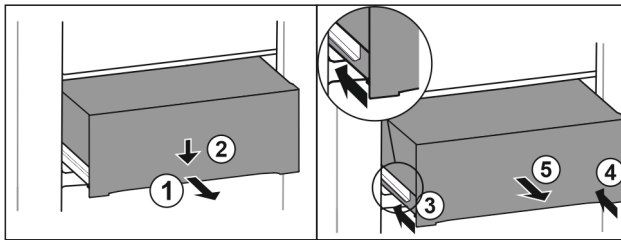

Fig. 149
- ▶ Pull out drawer half-way. Fig. 149 (1)
- ▶ Push the drawer down at the front. Fig. 149 (2)
- ▶ Push the left rail in by about 2 cm. Fig. 149 (3)
- ▶ Push the right rail in by about 2 cm. Fig. 149 (4)
- ▶ Remove drawer to the front. Fig. 149 (5)